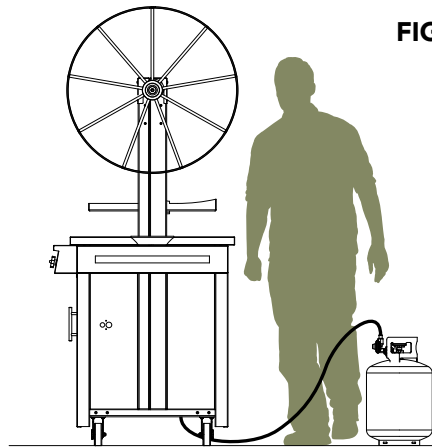

FIGURE 1
- Always ensure proper ventilation of the cylinder. See next page for proper ventilation required in an enclosure to safely dissipate gas vapors if there is a leak in your enclosure. The cylinder supply system must be arranged for vapor withdrawal. Cylinder must always be oriented in an upright position (Fig 1).
Never place the grill where the gas hose creates a safety hazard (see Figure 1). Tripping over an exposed gas hose may create a gas leak or create other serious safety hazards.